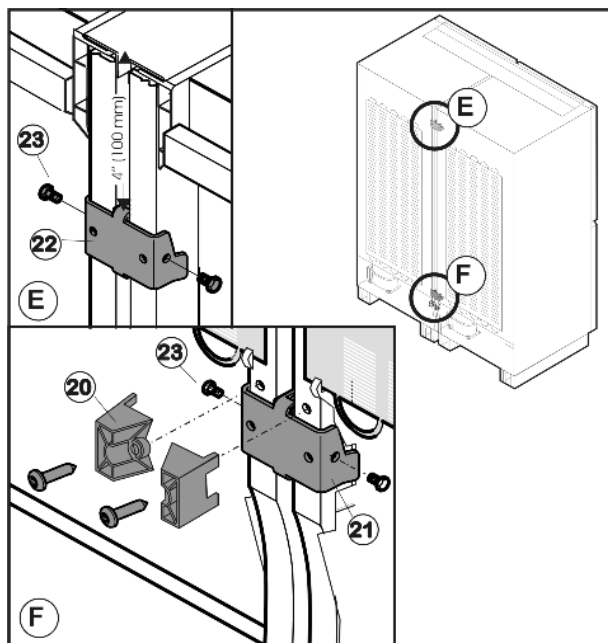

Fig. 63
- Remove the spacers Fig. 63 (20) from the lower reverse side of the appliances.
- Position lower connecting piece Fig. 63 (21) such that the screw holes are above each other and screw Fig. 63 (23) on from the side.
- Position upper connecting piece Fig. 63 (22) and screw Fig. 63 (23) on from the side.
- Tighten the screws Fig. 63 (23).